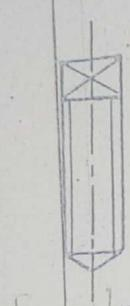

Figure 13
- (A) 4:1 (B) 5:2 (C) 1:2 (D) 2:1
g) Give the names of the screw heads shown by figures 13, 14, 15, 16 and 17 below. (10 marks)